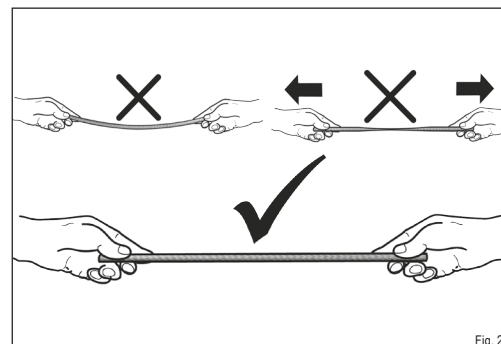

Fig. 25
- ▶ When installing the seal, ensure it does not sag and is slightly compressed (Fig. 25).